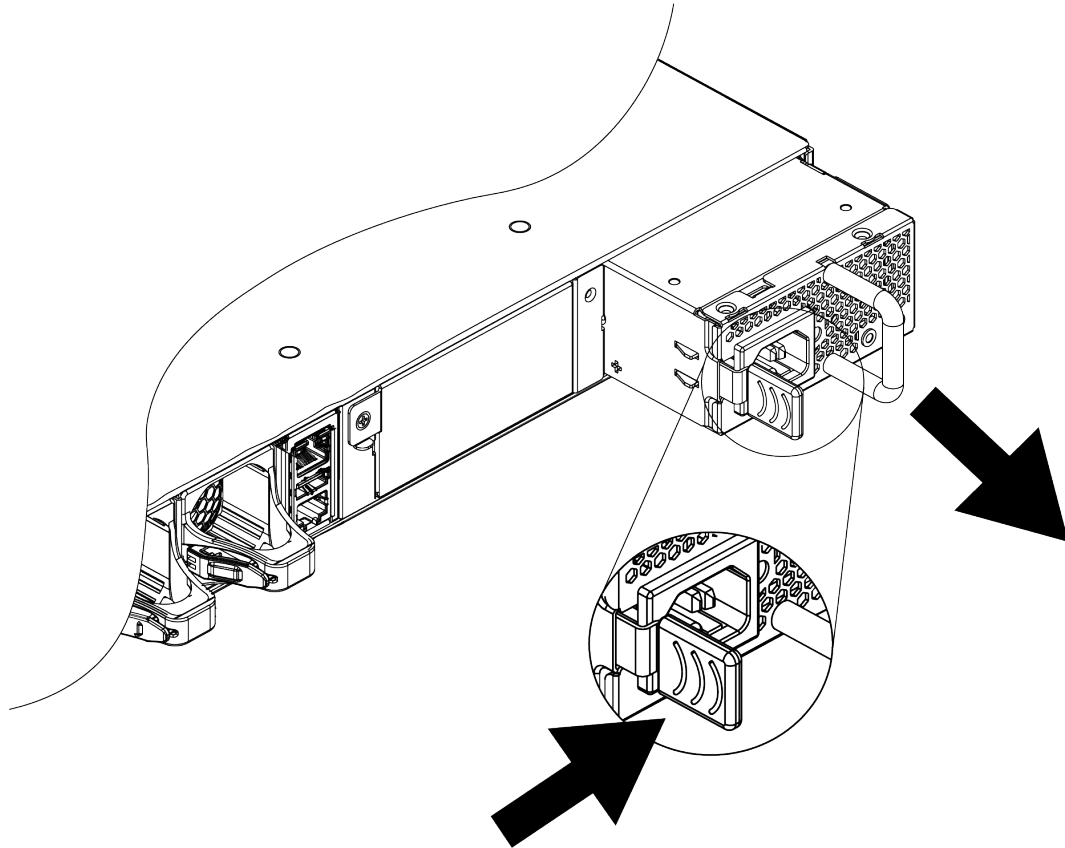

Figure 49: Removing an ExtremeSwitching 2000 W AC Power Supply
3. Push the latching tab toward the power supply handle and pull outward on the handle to disengage the power supply internal connectors. See Figure 49.